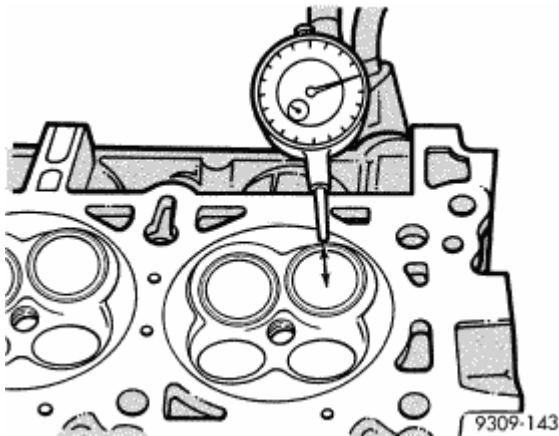

Fig. 96: View Of Valve Guide
4. Attach dial indicator Tool C-3339 to cylinder head and set it at right angle of valve stem being measured. See **Fig. 96**.